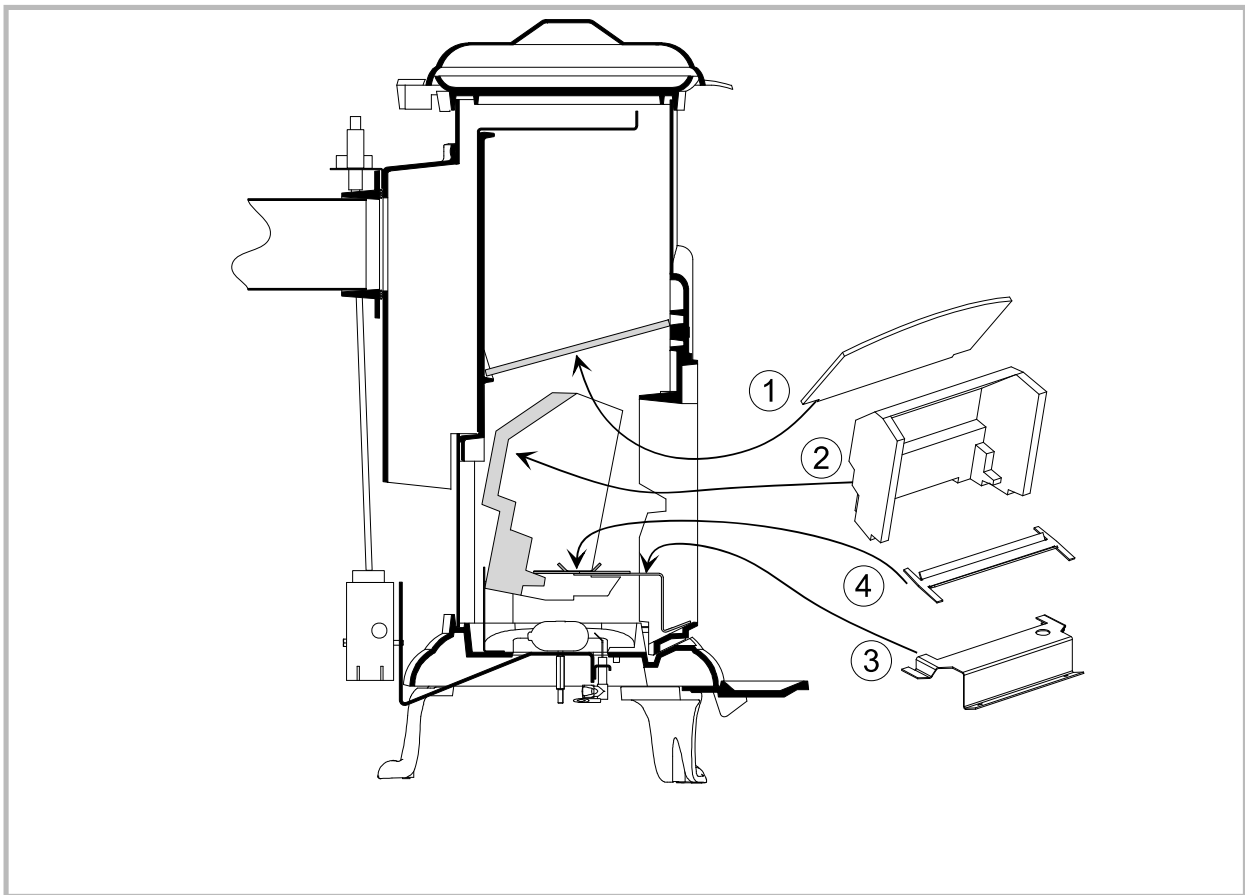
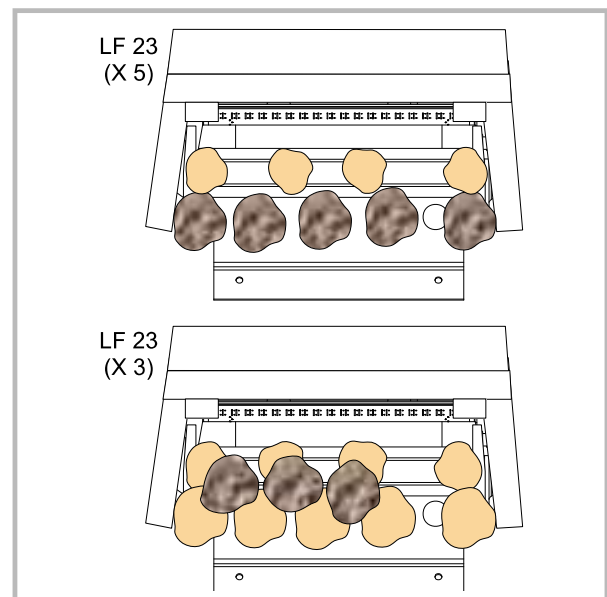

Figure 4 - Positioning of the refractory elements
Figure 6 - Ceramic coals (type LF 23)
- Remove the coals (fig. 6 and 5) and baffles (fig. 4) in the order of the reference marks.
- Fit the 8 ceramic coals (type LF 23) as shown in the diagram (fig. 6).
- Remove the parts, coals (fig. 6 and 5) on the flue baffle (# 1, 2, 3 and 4, figure 4).